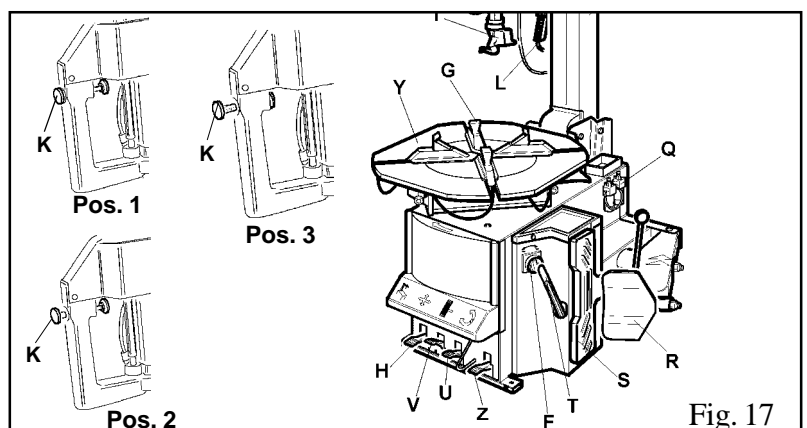

Fig. 17
- With the lever held in this position, let the turntable (Y) rotate in a clockwise direction by pressing pedal (Z) down until the tyre is completely separated from the wheel rim (Fig. 17).
- In order to remove the inner tube, if there is one, without unlocking the mounting bar, tilt the arm (P) by pushing pedal (H) down.